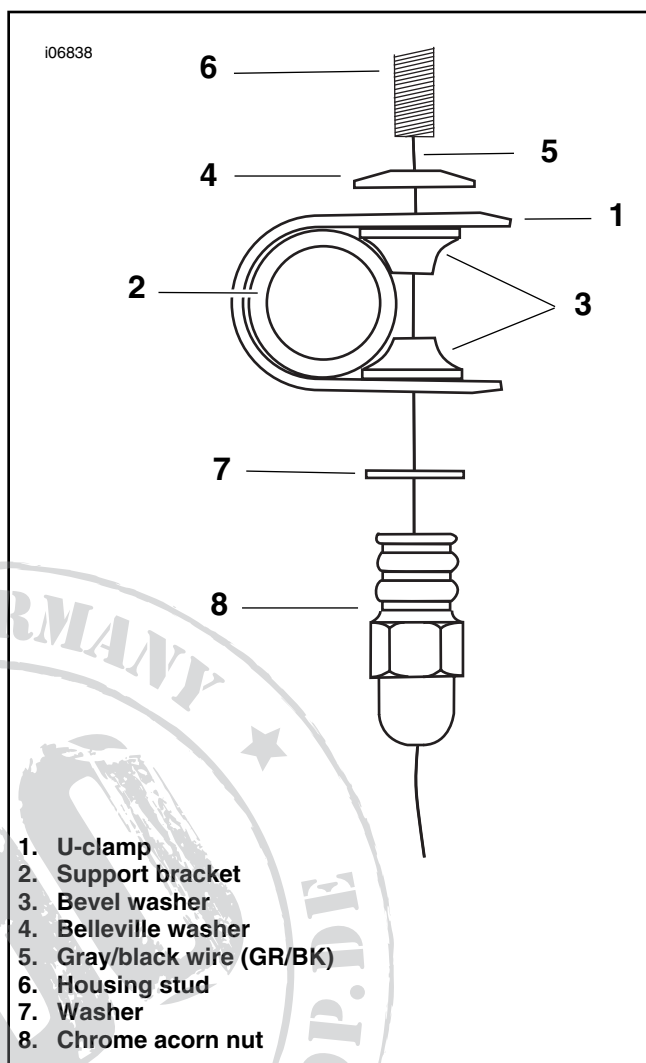
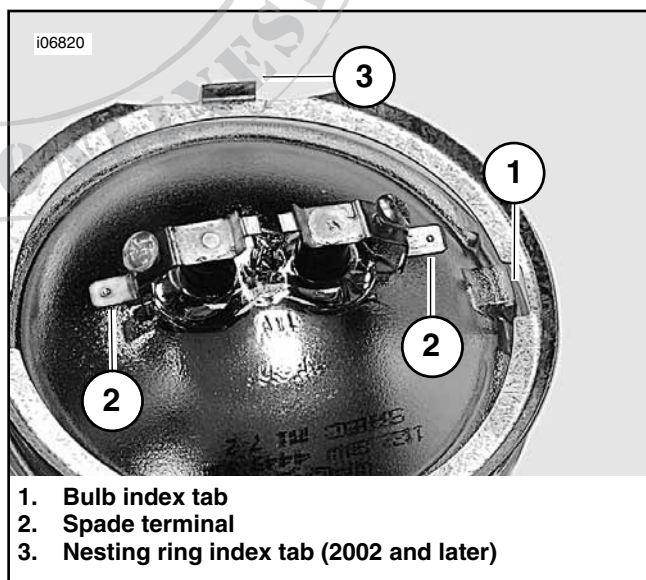

Figure 5. Auxiliary Lamp Bulb Terminals
Figure 6. Auxiliary Lamp Bulb Terminals
1. See Figure 5. With the open end facing the rear of the motorcycle, fit the U-clamp (1) around the support bracket (2) and assemble the lamp housing to the bracket.
- a. Hold the U-clamp and fit the bevel washers (3) to the curve of the support bracket.
- b. With the convex side of the Belleville washer (4) facing the lamp housing, thread the gray/black (GR/BK) wire (5) from the housing through the Belleville washer and then through the clamp and the 2 bevel washers.
- c. Fit the housing threaded stud (6) through the Belleville washer, the U-clamp and the bevel washers.
- d. Slip a washer (7) over the wire and housing stud and secure with the chrome acorn nut (8).
2. See the Service Parts illustration. Locate the outer trim ring (18), inner nesting ring (21), screw (19), and nut (20).
4. See Figure 6. Connect the black wire to the bulb spade terminal (2) next to the bulb indexing tab (1) on the bulb. Install the gray wire on the remaining spade terminal.
7. See the Service Parts illustration. Slide conduit (17) over each wire, until the end of the conduit is 2 inches inside the exit hole of the support bracket.
9. Secure the wires to the inside of the right-side long mounting tab on the support bracket with 2 short cable straps (14).
10. Install button plugs (8) in both ends of the support bracket.